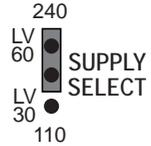

Figure 5 User adjustments
- Resistor R1 scales the armature voltage. Depending on what armature voltage is needed at full speed, R1 is 510K (as fitted) for AVF 90 to 200 V or change R1 to 180K for AVF 45 to 100 V. Refer to "Figure 5 User adjustments" on page 7.
- a. **To use Tacho feedback (Terminal 6), remove resistor R1 from the board** - refer to "Figure 5 User adjustments" on page 7.